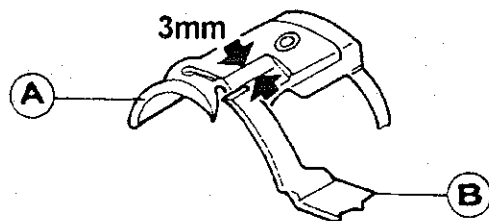

Fig. 36
Figure 36 shows the standard position that the Left Knife (A) begins to touch the Fixed Knife (B).